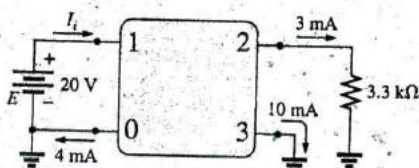

FIG. 5.125
*42. For the integrated circuit in Fig. 5.125, determine $V_0, V_{03}, V_2, V_{23}, V_{12}$, and I_f .